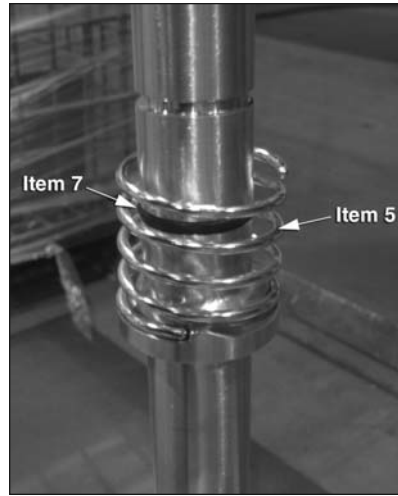

Figure 5
- Slide the spring (item 5) onto the shaft, abutting the end of the spring against the outer ledge on the shaft; and follow it with the stainless steel rotary seal (item 6), matching the opposing end of the spring to the ledge on the rotary seal. The gasket seal (item 8) should be slid onto the shaft with the black silicon carbide side facing the rotary seal, resting the gasket seal on the opposing end of the rotary seal to the spring. See Figures 5 and 6.